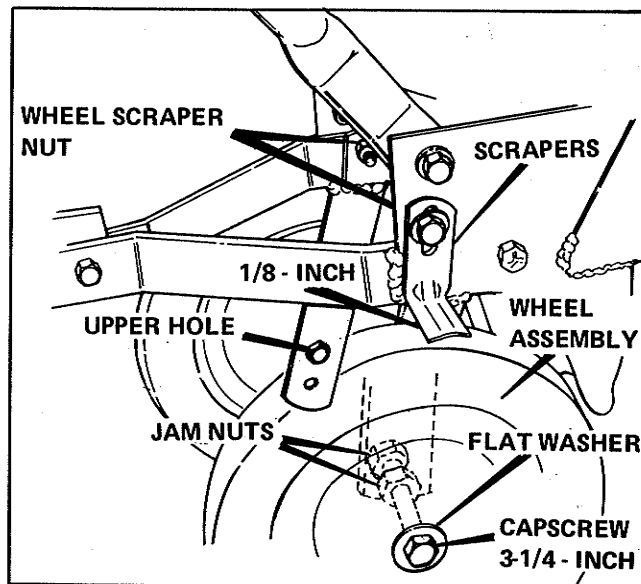

Figure 6.
- b. See Figure 6. Secure each wheel assembly to frame through upper holes in frame support with a 3-1/4-inch long capscrew, flat washer, and two jam nuts. One jam nut to be placed on either side of frame upright. Tighten jam nuts to insure wheels turn freely with little side play.
6. See Figure 6. Loosen each wheel scraper nut and adjust wheel scraper to clear wheel by 1/8-inch. Tighten scraper nut.
8. See figure 6. Secure depth bar and clamp to rear of frame with pin and hairpin clip. Digging tip of bar should be installed as shown.
See Figure 6. Be sure wheels are mounted in the UPPER holes of the frame support. If required, adjust wheel scraper 1/8-inch above tire.
See Figure 6. Loosen scraper mounting nut and adjust scraper in its slot to 1/8-inch clearance above wheels. Tighten nut when adjustment completed.